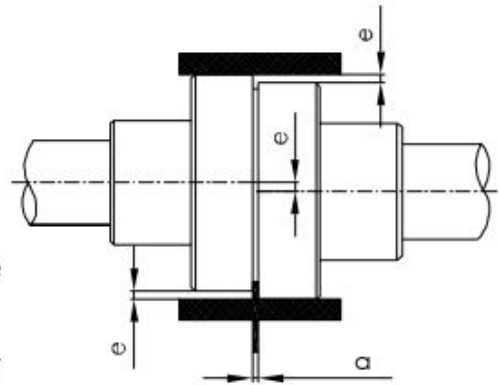

Fig. 3. Aligning a flexible coupling
- To control parallel sliding error, straight edged steel ruler is pressed down on one half of the coupling in parallel to the axis. It is checked against the other half. Straight edge must touch to the both half couplings completely same at all points in each vertical and horizontal planes (**Fig. 3**).